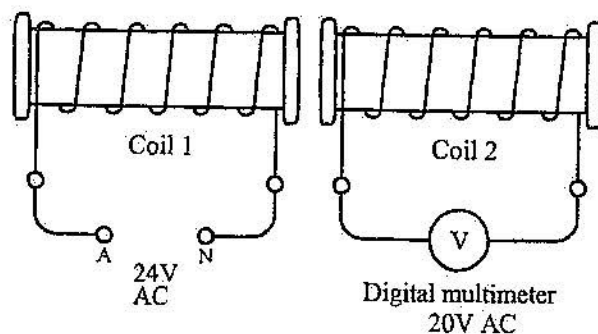

Figure 3
1. Connect the circuit as shown in figure 3. **Do not** insert a soft iron core.